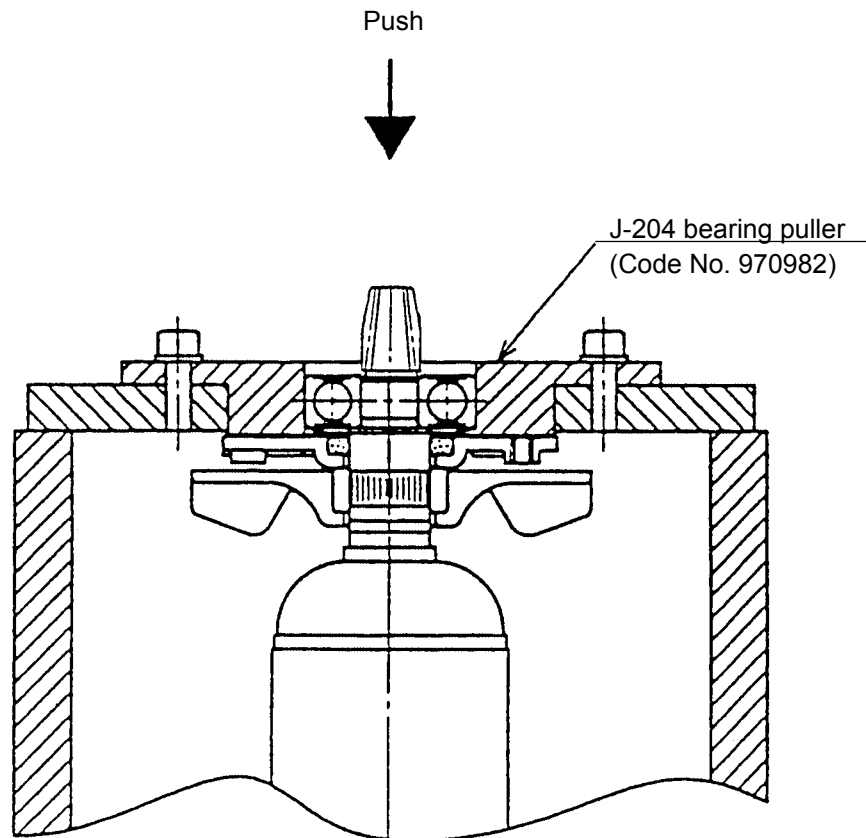

Fig. 1
- (1) Loosen the two Brush Caps **[45]**, and take out the Carbon Brushes **[46]**.
- (2) Remove the four Tapping Screws (W/Flange) D5 x 30 **[2]**. The Armature Ass'y **[13]** can then be taken out simultaneously with the Gear Cover Ass'y **[5]**, Packing Gland **[30]** and related parts.
- (3) Remove the four Seal Lock Screws (W/Sp. Washer) M5 x 14 (Black) **[31]**, and remove the Packing Gland **[30]**, and related parts.
- (4) After removing the three Seal Lock Screws (W/Sp. Washer) M4 x 10 **[1]**, the Armature Ass'y **[13]** can be extracted together with the Bearing Cover (B) **[12]**, and related parts.
- (5) Carefully wrap the Armature Ass'y **[13]** with a soft, clean rag to protect it from being damaged, and clamp it securely in a vise. Remove the Retaining Ring for D8 Shaft.
- (6) As illustrated in Fig. 1, the Ball Bearing 6200DDCMPS2L **[9]** can be removed from the Armature Ass'y **[13]** by utilizing a J-204 Bearing Puller (special repair tool, Code No. 970982).